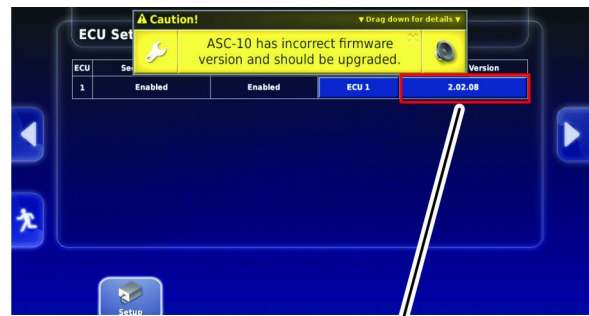

Figure 28
2. In the Firmware Version column for ECU 1, press the current version (X.XX.XX) icon (Figure 28).